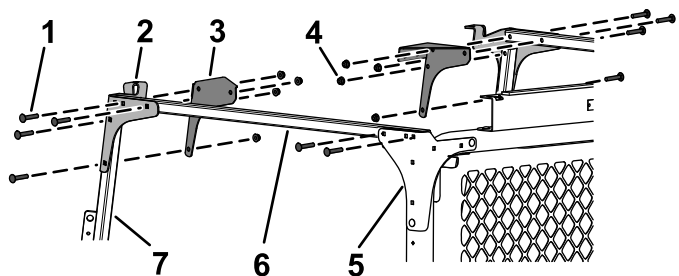

Figure 35
8. Loosely install the crosslink tubes to the rear mount brackets and rear corner gussets using 4 carriage bolts (5/16 x 1-3/4 inches) and 4 flange nuts (5/16 inch) as shown in Figure 35.
9. Loosely install the front mount brackets and front corner gussets to the crosslink tubes and the windshield supports using 8 carriage bolts (5/16 x 1-3/4 inches) and 8 flange nuts (5/16 inch) as shown in Figure 35.